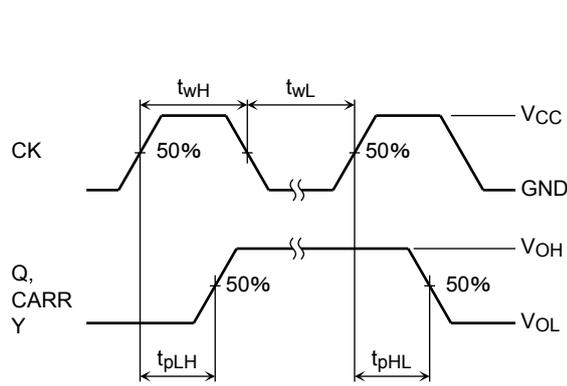
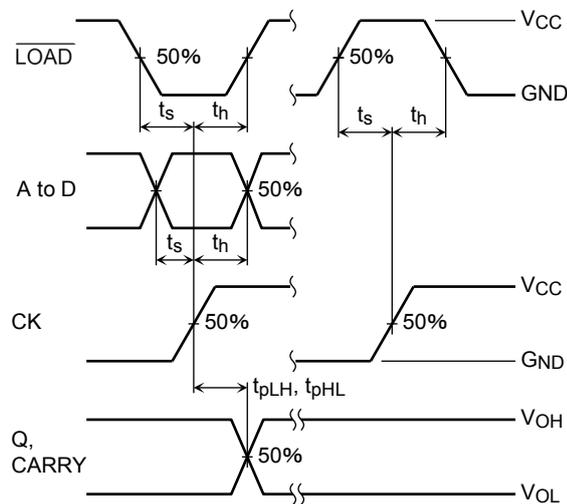

Figure 1 Count Mode
Figure 2 Preset Mode
| Minimum pulse width (CK) | $t_w(L)$ $t_w(H)$ | Figure 1 | 3.3 ± 0.3 | 5.0 | 5.0 | ns |
| Minimum set-up time (A, B, C, D) | t_s | Figure 2 | 3.3 ± 0.3 | 5.5 | 6.5 | ns |
| Minimum set-up time (LOAD) | t_s | Figure 2 | 3.3 ± 0.3 | 8.0 | 9.5 | ns |
| Minimum hold time | t_h | Figure 2, Figure 3 | 3.3 ± 0.3 | 1.0 | 1.0 | ns |
| Propagation delay time (CK-Q) | t_{pLH} t_{pHL} | Figure 1, Figure 2 | 3.3 ± 0.3 | 15 | — | 8.3 | 12.8 | 1.0 | 15.0 | ns | |
| Propagation delay time (CK-CARRY, count-mode) | t_{pLH} t_{pHL} | Figure 1 | 3.3 ± 0.3 | 15 | — | 8.7 | 13.6 | 1.0 | 16.0 | ns | |
| Propagation delay time (CK-CARRY, preset-mode) | t_{pLH} t_{pHL} | Figure 2 | 3.3 ± 0.3 | 15 | — | 11.0 | 17.2 | 1.0 | 20.0 | ns | |